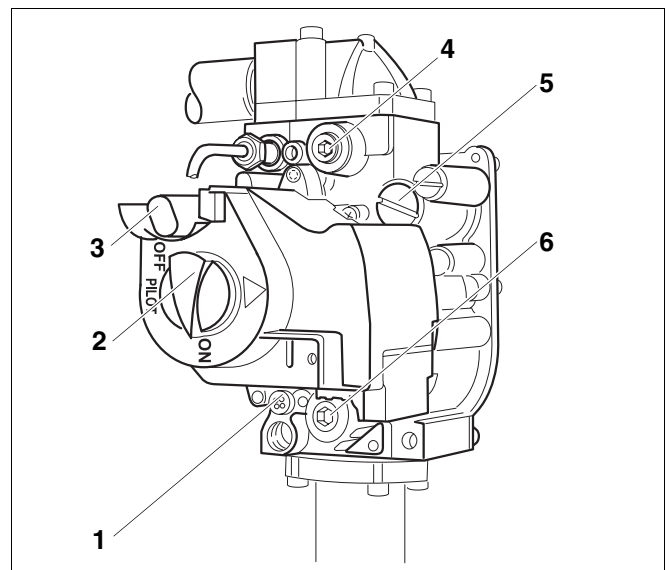

Fig. 30 GC124 SP gas valve
1. Turn gas valve ON/OFF switch counterclockwise to "PILOT" position (→ Fig. 30).